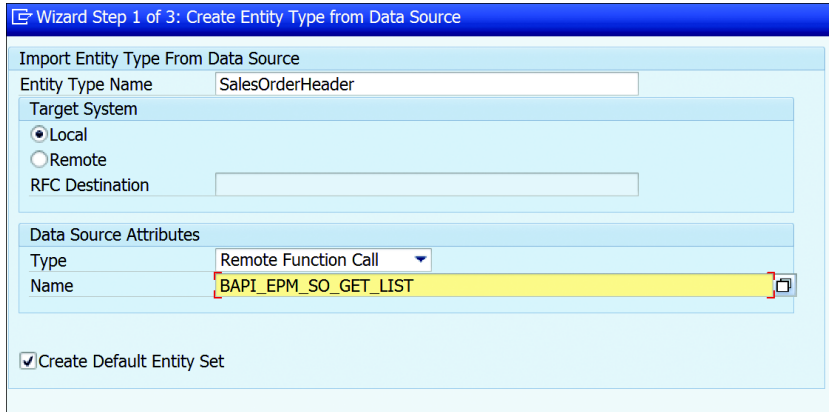

Figure 19.105 Create Entity
4. In the **CREATE ENTITY** window, provide a name for the entity (**ENTITY TYPE NAME**), as shown in Figure 19.105. You'll be creating two entities, one for the header and one for line items.